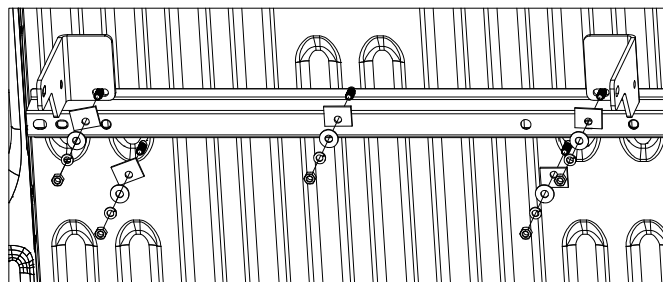

Figure C6: View under bed looking up. (Frame not shown)
6. **Secure the forward mounting rail.** Under the bed install an offset square washer, 1/2" flat washers, 1/2" lock washer and 1/2" finish nut on each of the carriage bolts, see Figure C6. Hand tighten each nut.